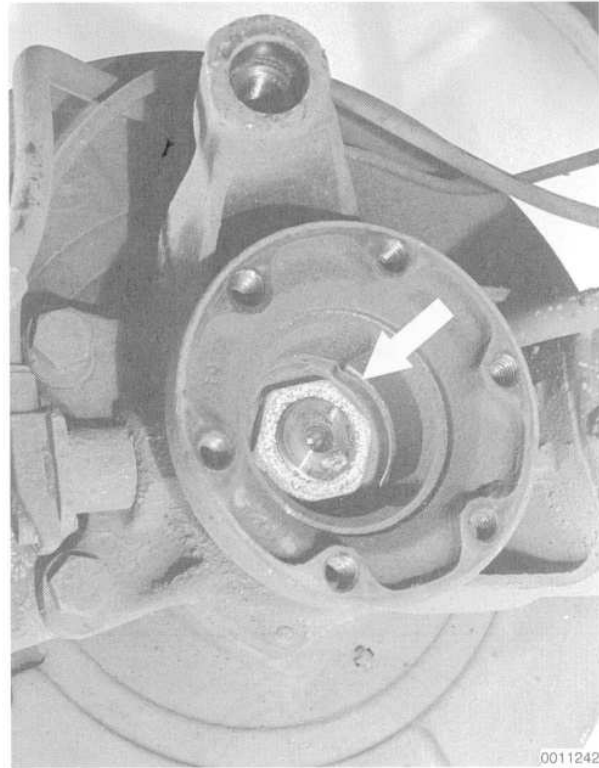

Fig. 7. Drive flange collar nut and lockplate (arrow).
3. Pry the lockplate off the drive flange collar nut. See Fig. 7.